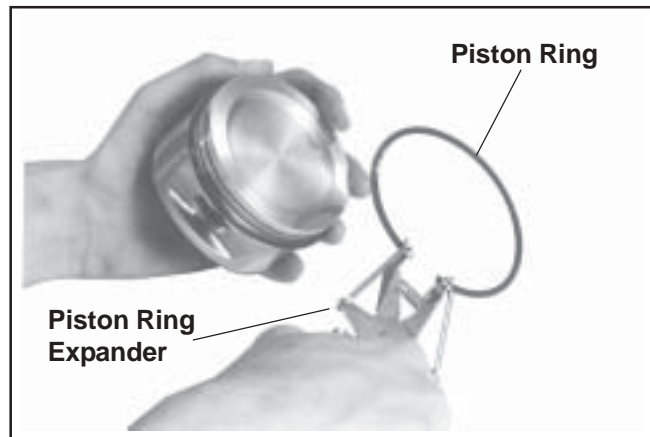

**Figure 10-10. Measuring Piston Ring Side Clearance.**
5. After installing the new compression (top and middle) rings on the piston, check the piston-to-ring side clearance. Compare the clearance to specifications listed in Section 1. If the side clearance is greater than specified, a new piston must be used. Refer to Figure 10-10.